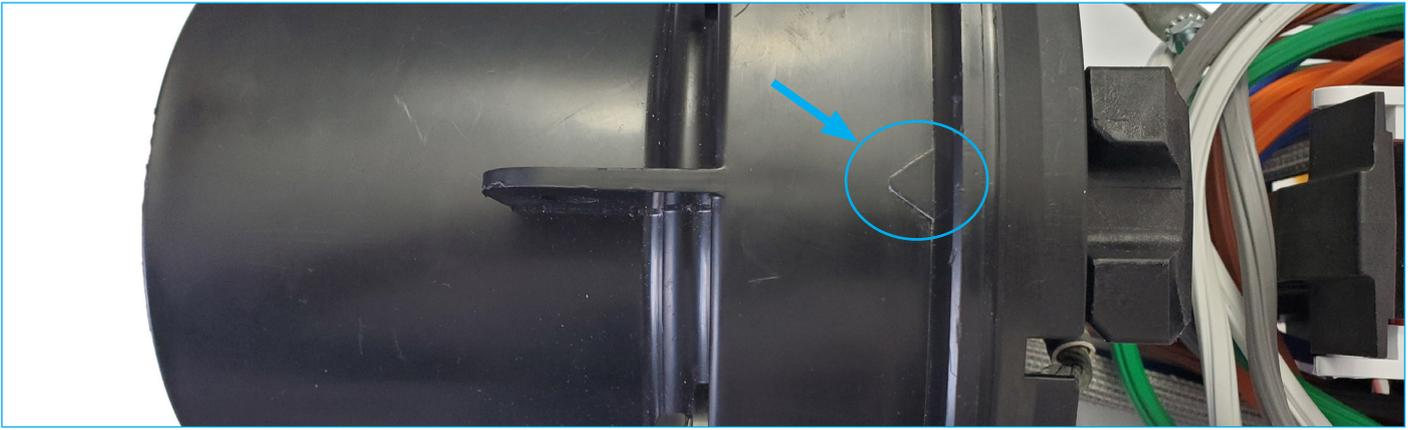

Figure 34
10.5 Slide the base up and over the gel block. The arrow on the base must be at the top of the closure, see Figure 34.